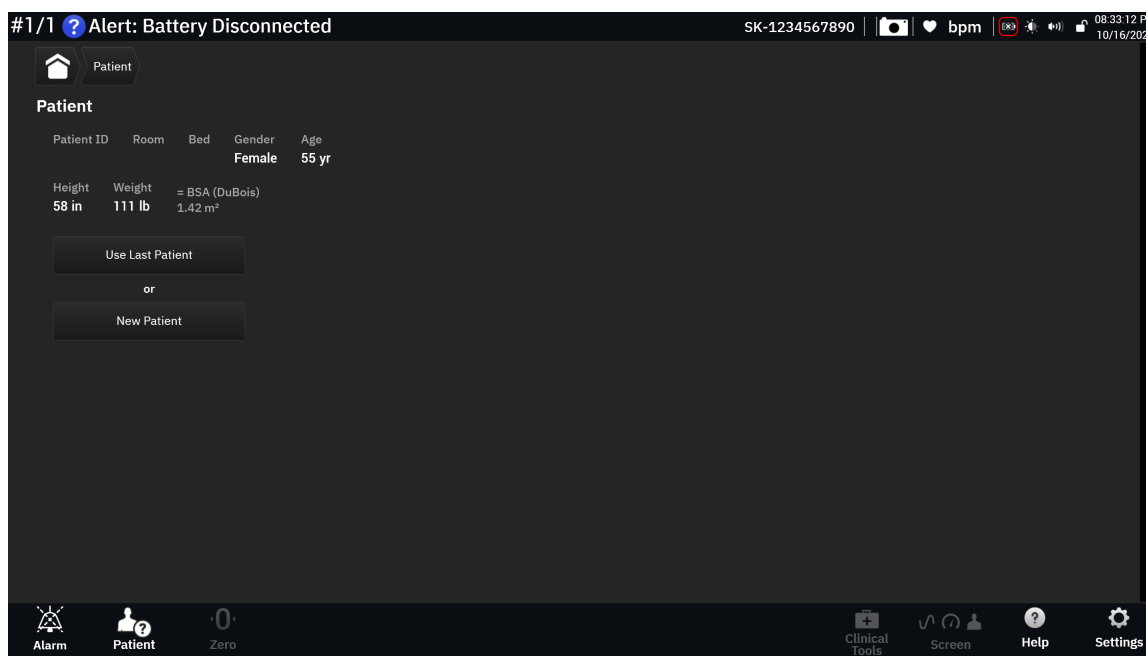

Figure 5-2: New or continuing patient screen
After the system is turned on, the user has the option to either continue monitoring the last patient or to start monitoring a new patient. See Figure 5-2 on page 132.
1. After turning on the monitor, the new or continuing patient screen appears (Figure 5-2 on page 132). Touch **New Patient** and continue to step 2.